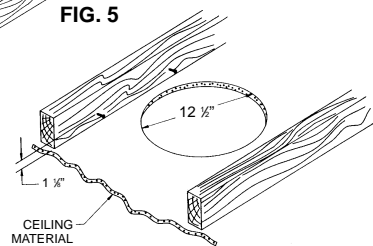

FIG. 5
3. In attic mark ceiling for cutout by using housing as a template. Using this line, make a cutout about 1/4" larger. (See Fig. 5).
5. Insert (4) mounting brackets with angels pointing away from housing. Place housing into hole and rest mounting brackets on sheetrock. Extend mounting brackets to joists. Drive a nail (4D or 6D) directly above the holes in the mounting brackets 1 1/8" from the bottom of joists, leaving 1/4" of the nail projecting. Position mounting brackets over nails and drop into place. Finish driving nails. Bottom of housing should be flush with ceiling. (See Fig. 5).